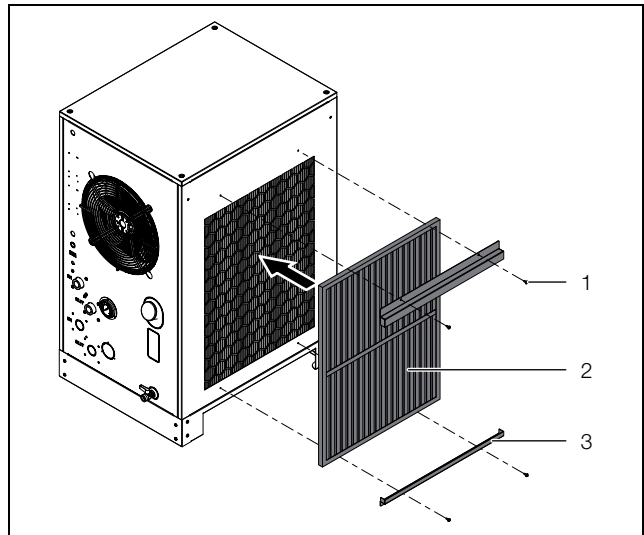

Fig. 23: Installing the metal filters
■ Mount the two holders (fig. 23, item 3) with the mounting screws (fig. 23, item 1) on the left side of the chiller.